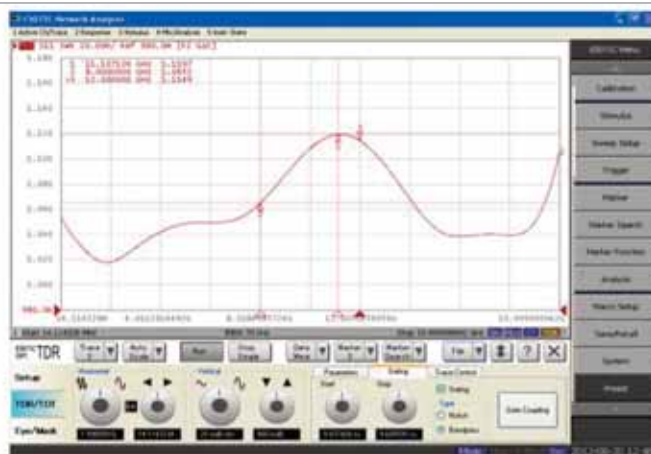

Figure 4: VSWR for a mated pair with Hypertac coaxial sockets for both inner and outer contacts
**Figure 4:** On the two graphs, the X-axis shows the index of the aperiodic frames while the Y-axis is the time between two successive aperiodic transmissions. The upper graph is a real data trace collected while driving (only the aperiodic frames). The lower graph is an artificial data trace generated with a probabilistic model of the aperiodic frames (here Weibull interarrivals with parameters fitted with maximum-likelihood estimation using the real data trace). The probabilistic model can be used both for simulation and worst-case analysis, as done in [14]
Multiple changes can result in multiple reflections and a substantial degradation in overall system performance. The challenges were therefore twofold: (a) to design a contact with a tightly controlled characteristic impedance and excellent RF transmission characteristics, and (b) to design it small enough for the airborne radar application and in keeping with coaxial cable diameters. These challenges resulted in the Hyperboloid once again proving its outstanding capabilities, demonstrating excellent insertion loss and VSWR characteristics up to 26GHz and beyond (see Figure 4).